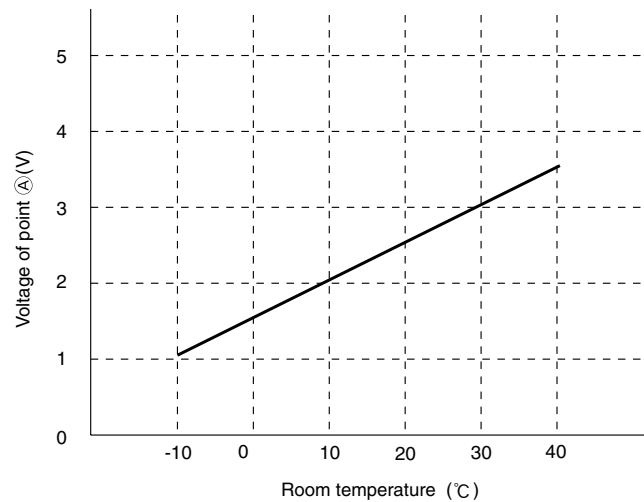

Fig. 4-2
- (1) Preheating
- (2) Low-temperature defrosts at cooling・dehumidification operation time.
- (3) Not working of reversing valve or detection of opening of heat exchange thermistor is controlled.
According to heat exchange temperature, the voltage of point ① becomes as it is shown in Fig. 4-2.